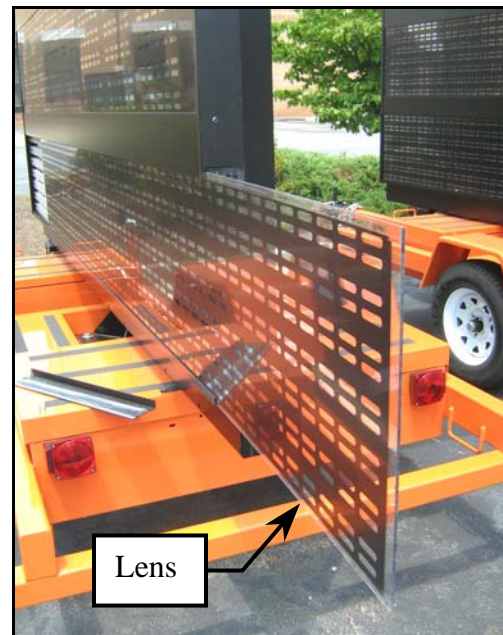

Figure 3-6b Lens removal
- Slide the appropriate Lens to the right far enough to get access to the desired Display Panel. (See Fig. 3-6b)